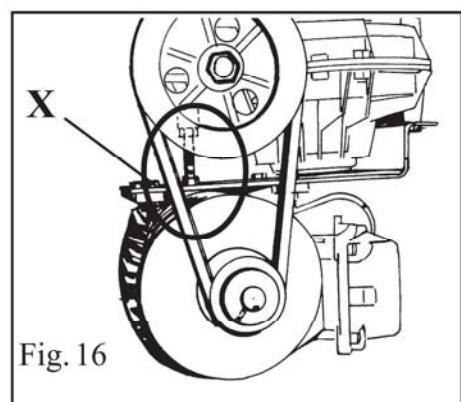

Fig. 16
In order to avoid damaging the inner tube if there is one, it is advisable to carry out this operation with the valve about 10 cm right of the mounting head. (Fig. 16)
- Remove the drive belt by means of the special adjusting screw X on the motor support (Fig. 16).